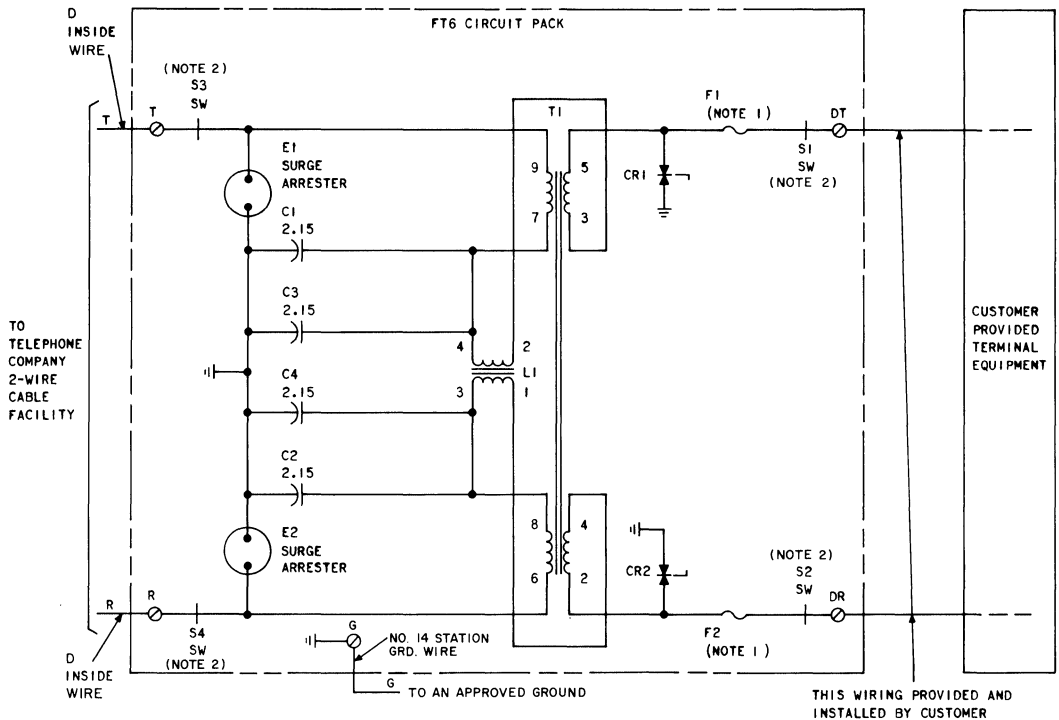

Fig. 5—Schematic—119A Interconnecting Unit
4.01 Voltage and Current Protection: Fuses F1 and F2 (see Fig. 5), zener diodes CR1 and CR2, surge arresters E1 and E2, and thermal switches S1, S2, S3, and S4 provide hazardous current and hazardous voltage protection for personnel and equipment.